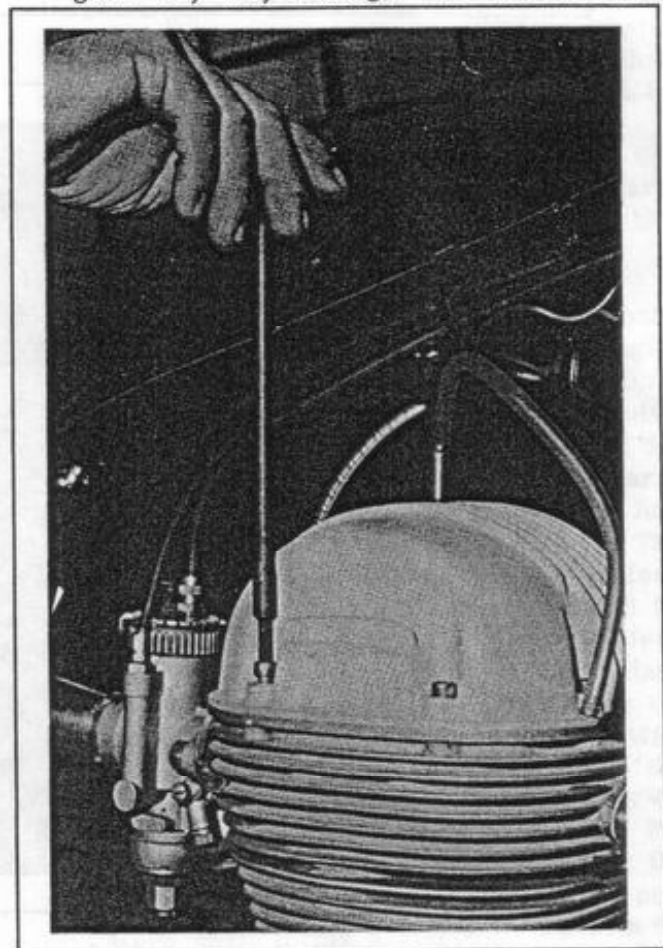

Figure 32.
6. Use tool A to remove the valve cover screws and take off the cover (Figure 32).